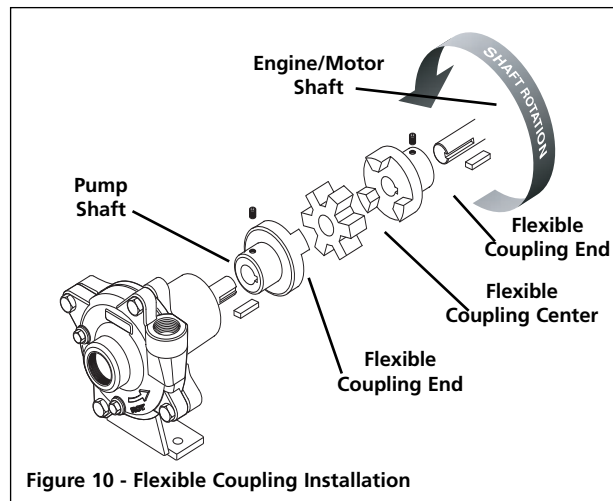

Figure 10 - Flexible Coupling Installation
1. Slide the flexible coupling ends onto the motor/engine and pump shafts as far as possible (See Figure 10).
4. When aligned, slide the flexible coupling ends over the flexible coupling center; then, secure the flexible coupling ends to the motor/engine and pump shafts (See Figure 10).